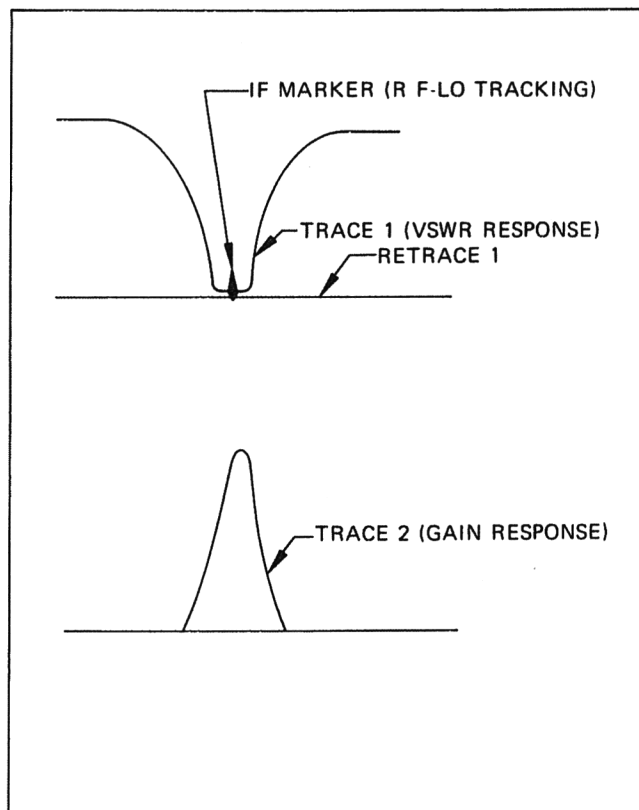

Figure 6-8. Oscilloscope Display for Tuner Test
- l. Vary the sweep generator marker gain to obtain the IF marker on the response curve (See Figure 6-8, Trace 1).
- t. Adjust A3L6 for the best gain response (See Figure 6-8, Trace 2) at the IF marker frequency.
- l. Vary the sweep generator marker gain to obtain the IF marker on the response curve. (See Figure 6-8, Trace 1)
- t. Adjust A4C15 for the best gain response (see Figure 6-8, Trace 2) at the IF marker frequency.
- l. Vary the sweep generator marker gain to obtain the IF marker on the response curve. (See Figure 6-8, Trace 1.)
- t. Adjust A5C14 for the best gain response (see Figure 6-8, trace 2) at the IF marker frequency.